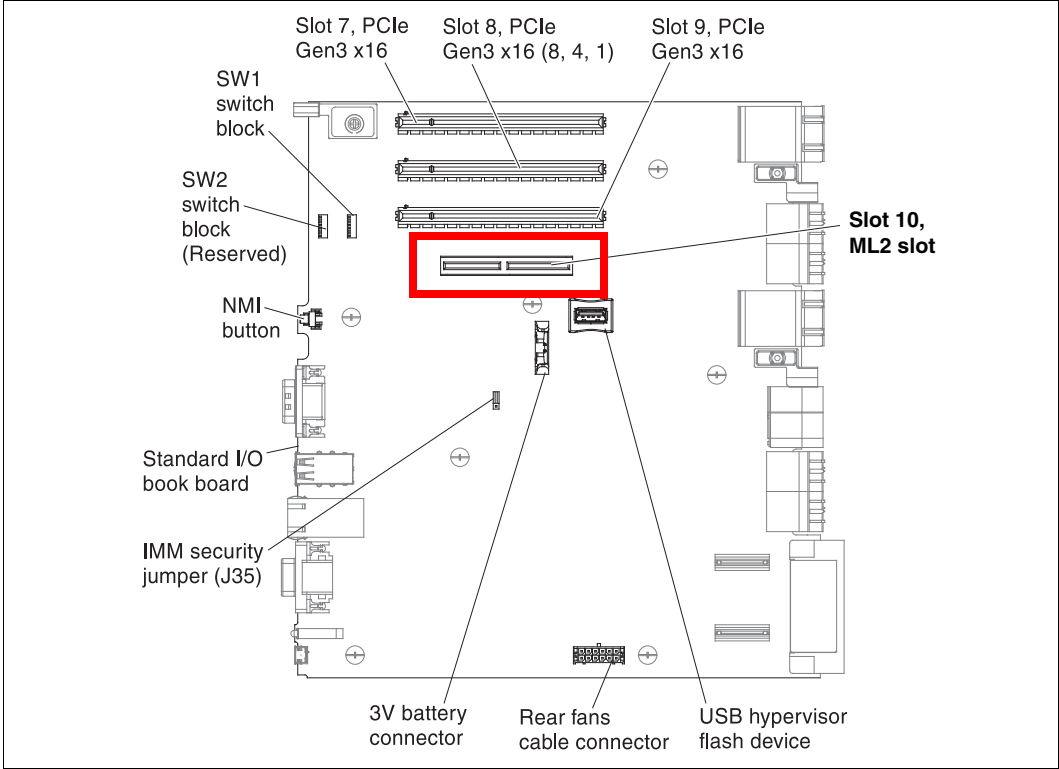

Figure 15 ML2 slot
- ▶ The Primary I/O board is required in any system. The Primary I/O board hosts the IMM and UEFI code, as well as the system battery, USB hypervisor port, and the Mezzanine LAN-on-motherboard generation 2 (ML2) adapter slot. The ML2 slot (Slot 10, as highlighted in Figure 15) is designed exclusively for ML2 adapters. ML2 network adapter cards only work in the ML2 slot.